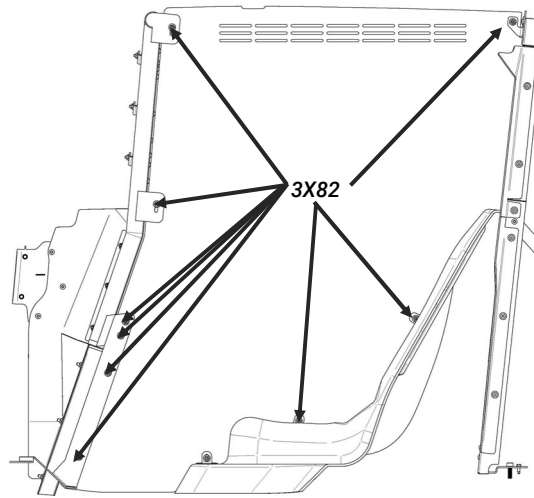

Figure 8
- G. Attach the (2) lower divider brackets [3DIV000000] to the seat with (4) #10-24 x 3/4 button head torx screws [3X274] and (4) #10-24 nylon flange nuts [3X275]. Be sure the upward bent flange of the bracket is on the driver side of the vehicle.
- I. Remove the (2) 1/4-20 X 1 carriage bolts [3X82] and the (2) 1/4-20 serrated flange nuts [3x16Z] from the partition.
- K. From the passenger side insert a carriage bolt [3X82] into the (9) holes along the partition. (Fig. 8)